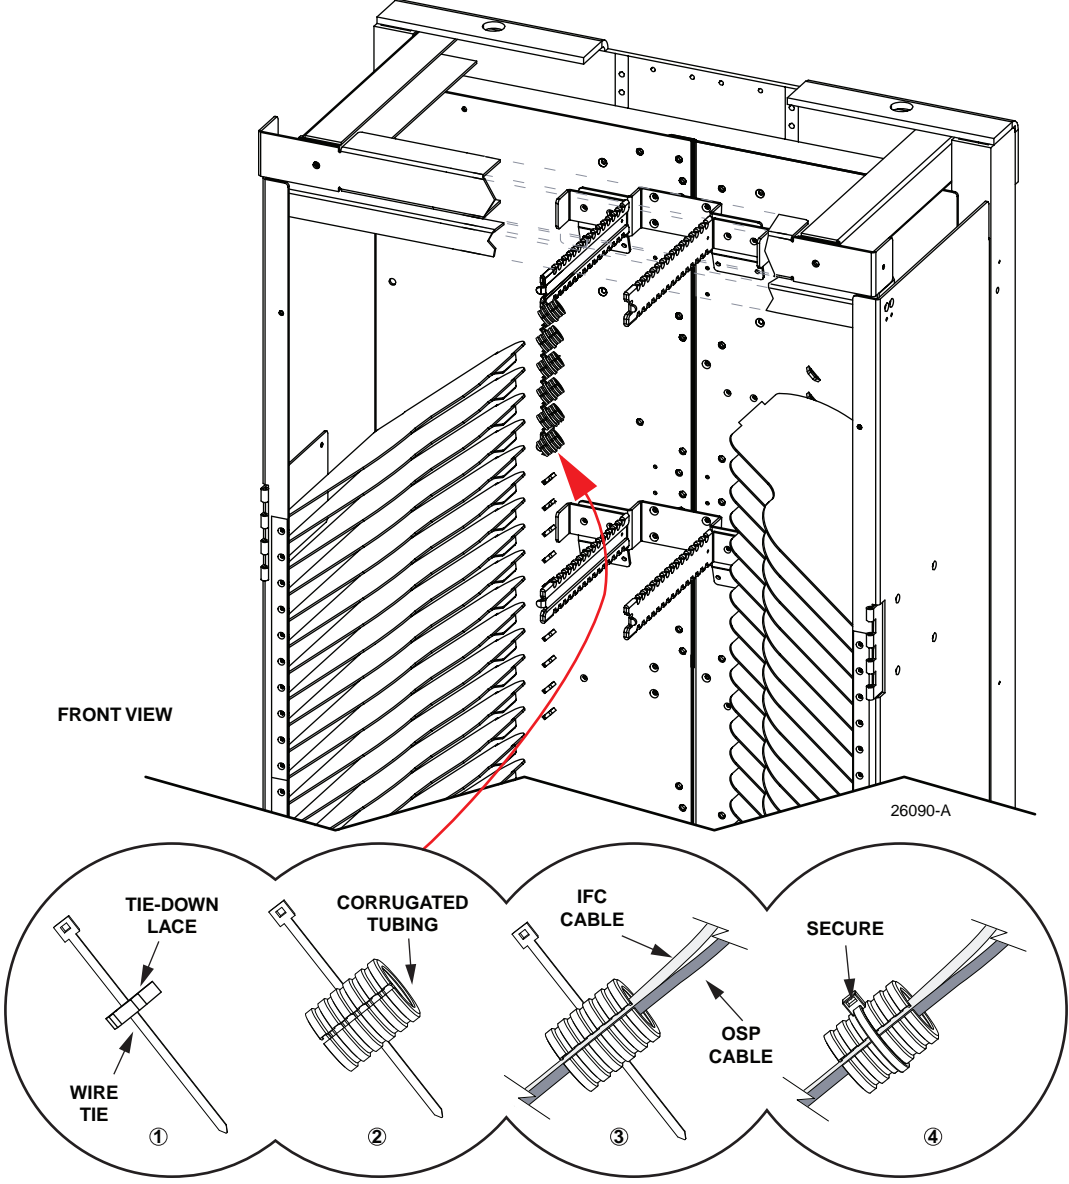

Figure 31. Cutting Corrugated Tubing
- 3. Cut corrugated tubing to 2.5" lengths and add to every position on the back wall of the OMX cabinet (see Figure 31). Snug down the cable ties making sure not to crush the corrugated tubing.